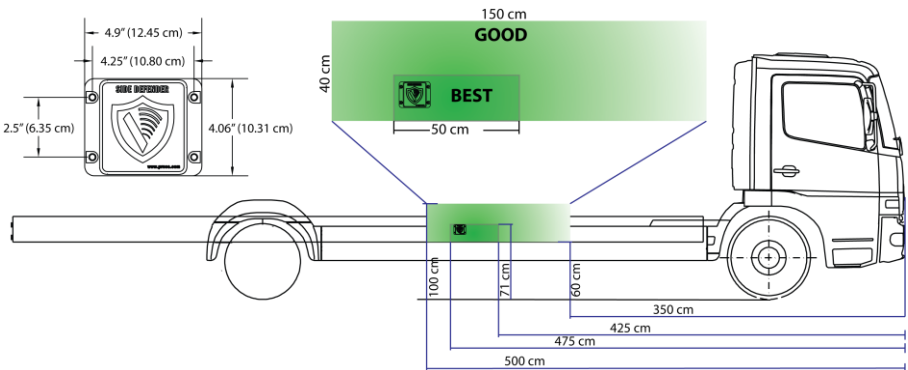

Figure 5 - Sensor Position on Vehicle
1. Select the appropriate location to mount the sensor (see Figure 5).